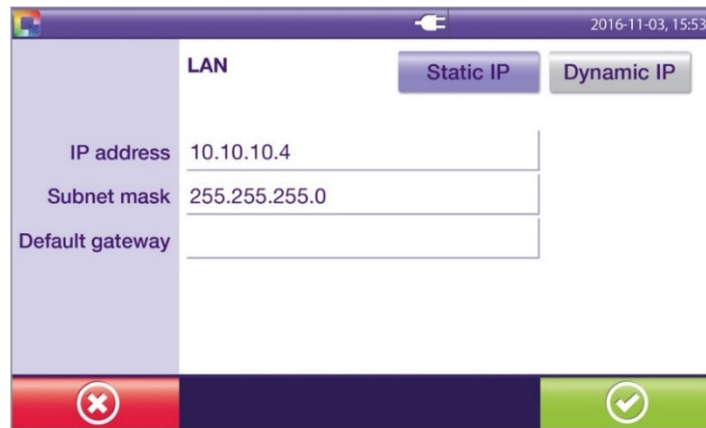

Figure 25
- Select either a **Static IP** or a **Dynamic IP** (Figure 25).